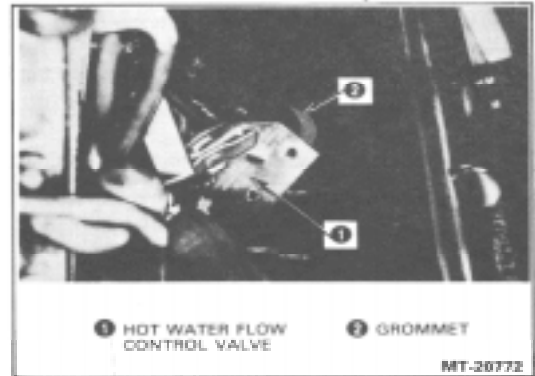

Figure 23. - Hot Water Flow Control Valve Removal
11. Rotate control valve assembly as necessary to withdraw lower neck of valve through grommet in bottom of blend-air unit housing. Remove valve (Figure 23).